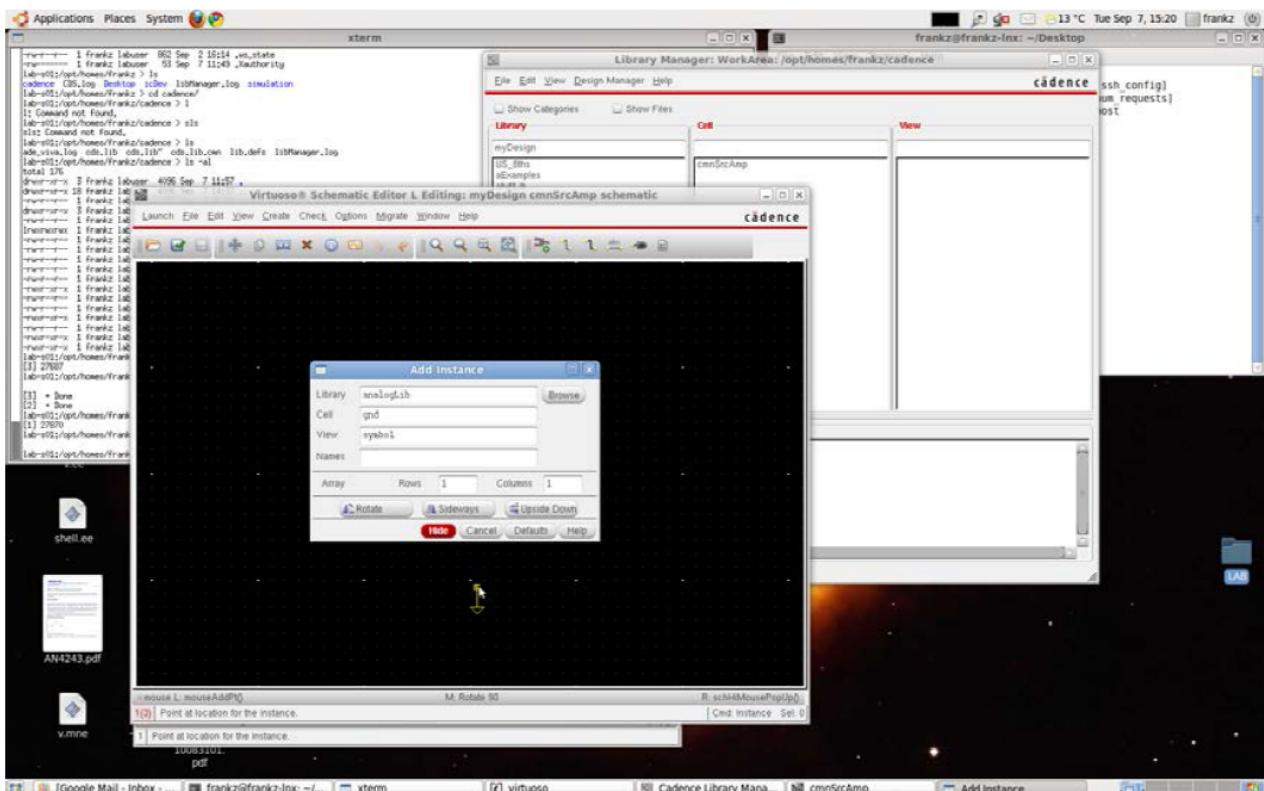

Figure 5: Adding Ground
- Step 5: Add ground - follow Steps 1-3 to add a "gnd" object from the analogLib library as shown in Figure 5. Click on the schematic window to place the component.